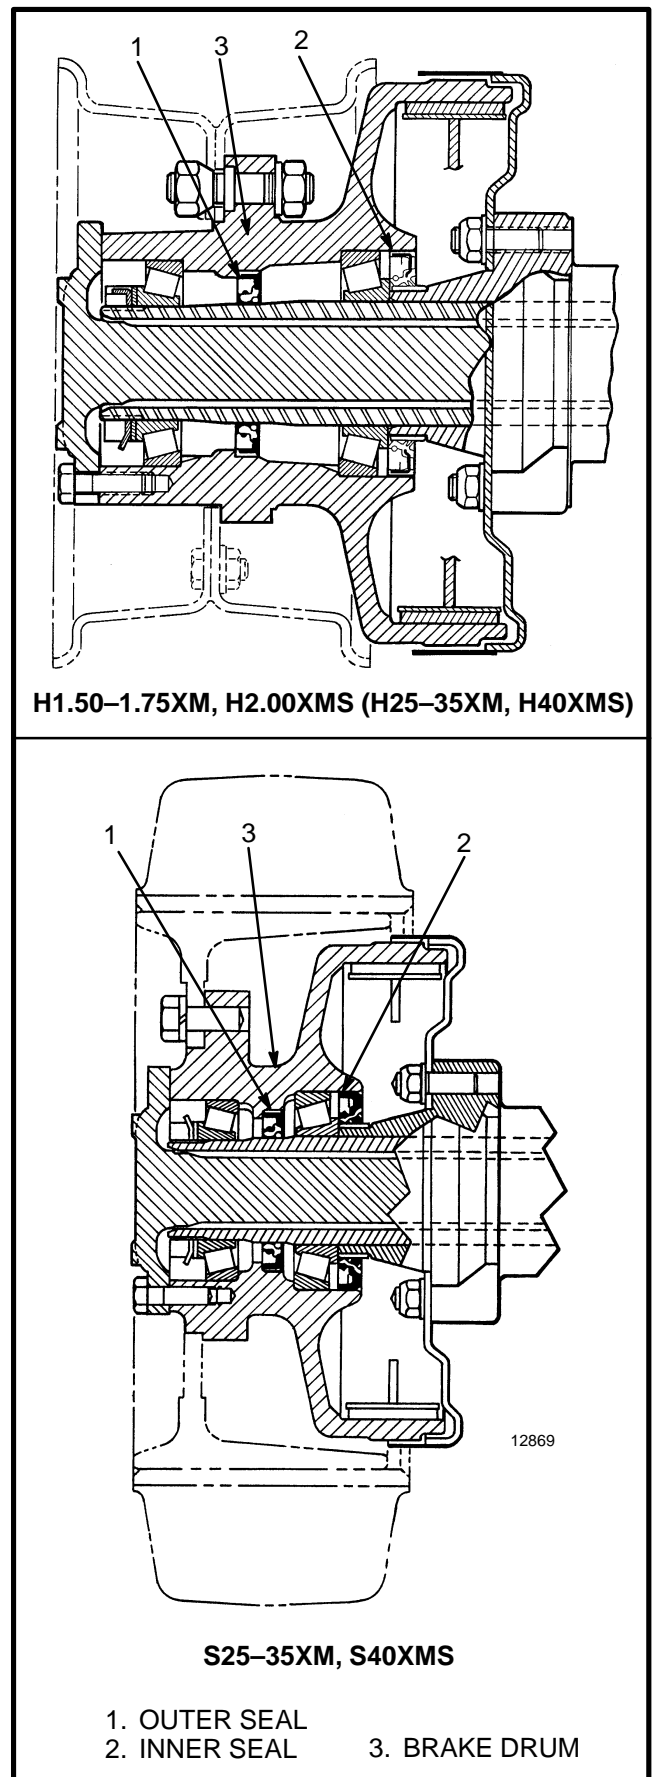
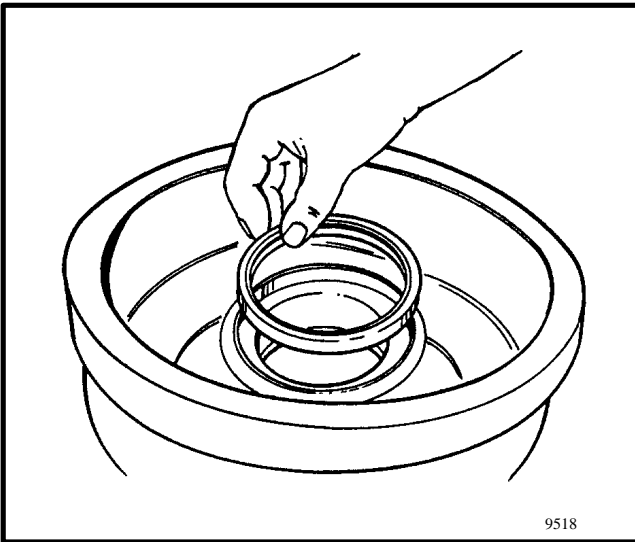

FIGURE 5. LOCATION OF THE GREASE SEALS
FIGURE 6. INSTALLATION OF THE INNER GREASE SEAL
8. Install the link (16), and the spring (17) between the parking brake lever (18) and the brake shoe (7).
9. Install the other spring retainers (8) that hold the brake shoes. Make sure the parking brake link (16) and the spring (17) are correctly engaged after the spring retainers are installed.
10. Install the anchor guide (5) on the anchor (4). Install the link (10) onto the anchor (4) and the actuator lever (20).
11. Install the actuator spring (9).
12. Use the correct tools to install the return springs (2). The shape of the return springs permits them to be installed correctly in only one position.
15. Clean the bearings and lubricate them with wheel bearing grease. Install the bearings and seals in the brake drum. Install the assembly on the axle housing. See FIGURE 5. and FIGURE 6.